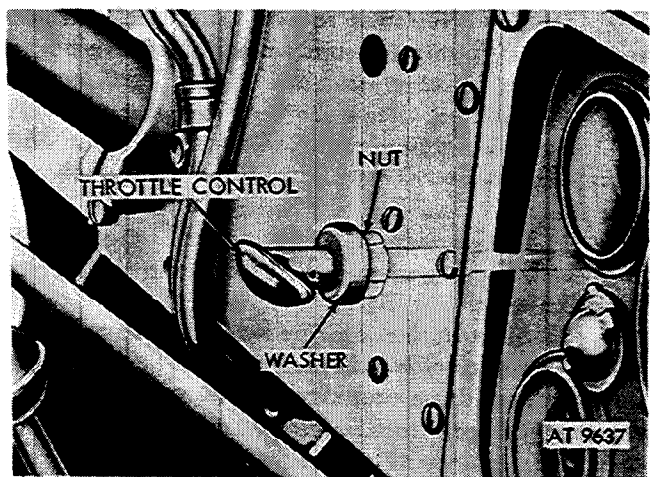

Figure 2-107. Remove throttle control assembly.
b. *Installation.* Install throttle control assembly by removal operations. Refer to figures 2-107 and 2-107.